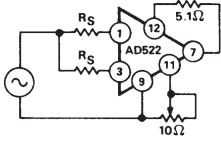

Figure 2. Optional CMR Trim
these errors can not be corrected by calibration. Common mode rejection of the AD522 is active laser-trimmed to the limits of thin-film resistor stability. Further trimming could improve CMR on a short term basis, but regular readjustment would be necessary to maintain this improvement (see Figure 2). In this example, untrimmed CMR and noise cause a total error of  $\pm 0.0065\%$  of full scale and are the major contributors to resolution error.
**CMR Trim:** A short-term CMR improvement of up to 10dB at low gains can be realized with the circuit of Figure 2. Apply a low-frequency  $20/G$  volt peak-to-peak input signal to both inputs through their equivalent source resistances and trim the pot for an ac output null.